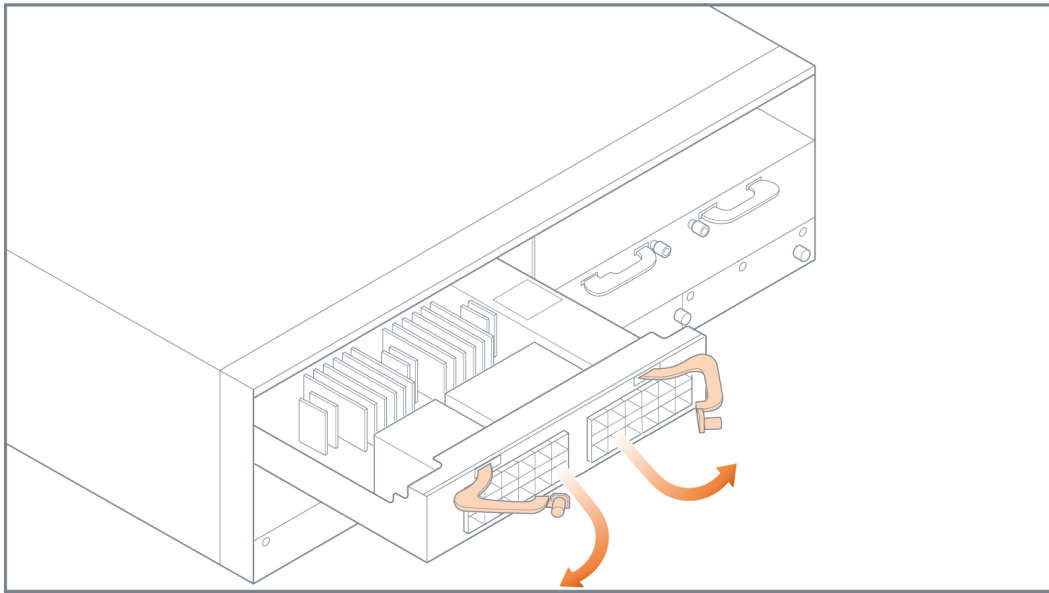

Figure 10 *Module Levers*
1. Pull out the two levers at the top of the module as shown in Figure 10 Module Levers.